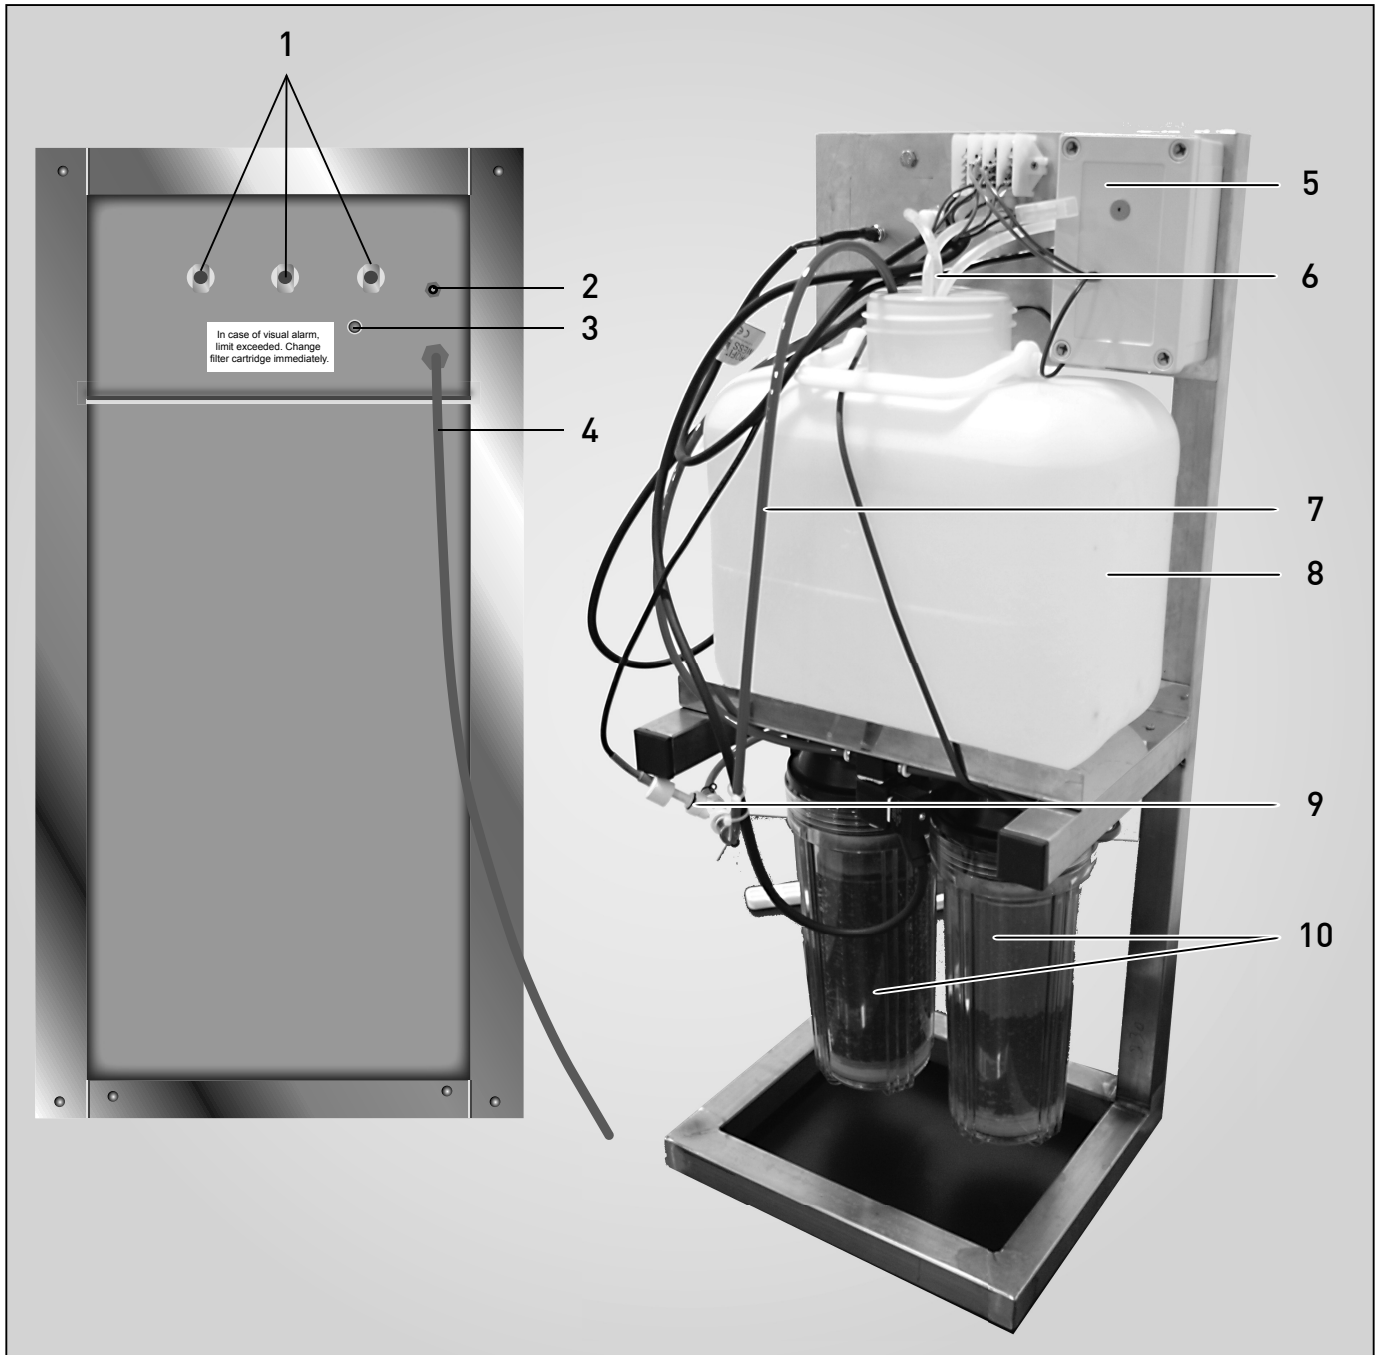

Fig. 1 Construction
Via the supply tube (Fig. 1, No. 4), tap water is fed through the filter cartridges (10) and this way demineralised. The demineralised water is channelled, float controlled, to a water supply tank (8) connected (6) with three tube connectors to the front of the appliance (1). Up to three MEMMERT appliances with humidity control can be connected here.